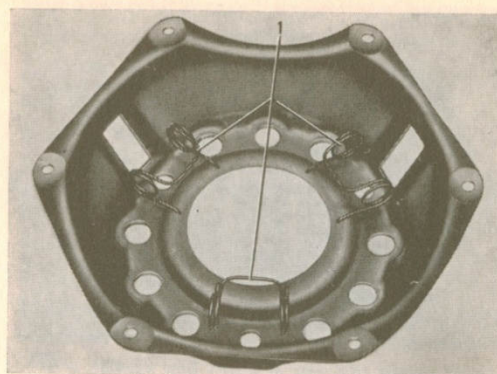

Fig. 2-10. Fitting the springs
4. Place the six pressure springs (24) in position. (The springs should be arranged so that black ones and unpainted ones come alternately on early prod. clutches. Late prod. clutches have only unpainted springs.)
5. Ensure that the three springs (1, Fig. 2-10) for the clutch levers are in position and place the clutch cover casing (21) over the six pressure springs in the position previously marked, Fig. 2-5.
6. Place on the 3-point support, arms, thrust rods and wrench. Press down the clutch cover casing until it contacts the bottom plate all round. Place the adjusting nuts on the eyebolts (32) and screw them on to full nut width. The clutch is now ready for adjusting.